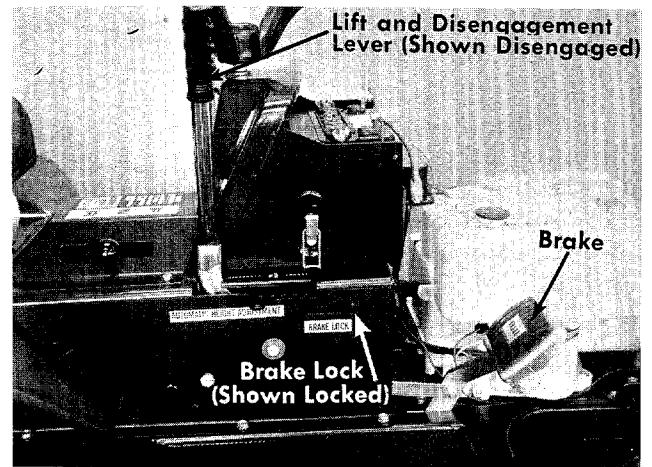

FIGURE 9. RIGHT HAND CONTROLS
c. **Brake.** The brake pedal is located on the right hand side of the mower and is operated by depressing it with your right foot. See figure 9.
d. **Brake Lock.** The brake lock is located on the right hand side of the mower. To lock the brake, depress the brake pedal and lift up the lock button. The pedal will stay depressed. To release, depress the pedal. See figure 9.
l. Lift and Disengagement Lever. It is used to raise the cutting deck. Pulling it all the way back and locking it disengages the blades. The engine will not start unless the lift and disengagement lever is in the disengaged position. See figure 9.
- Step 3. Place the lift and disengagement lever in the DISENGAGED position. See figure 9.
To stop the blades, move the lift and disengagement lever (figure 9) into the **DISENGAGED** position. This raises the deck and disengages the blades.